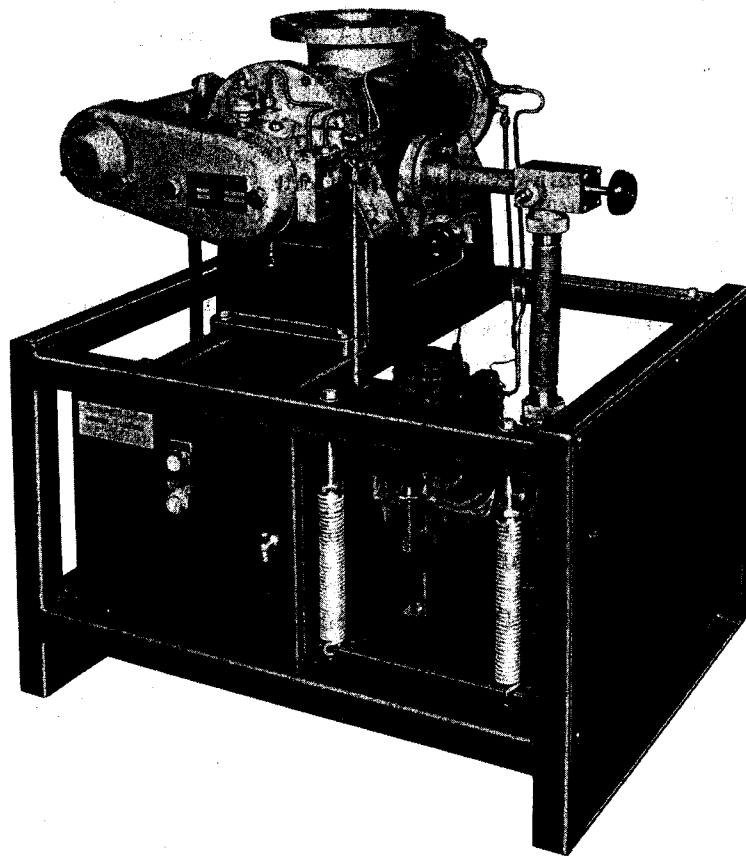

FIG. 1.
- Fig. 1. View of 3101 as used in 3101A Pump System.
This manual covers the Model 3101A Turbo-Molecular Pump illustrated in Figure 1, hereafter referred to as "Turbo Pump" or "pump."